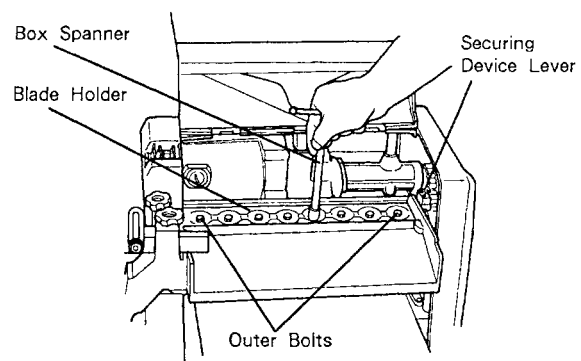

Fig. 15
- (3) Loosen the six inner bolts from the eight bolts securing the Blade Holder with the provided Box Spanner (Fig. 15).